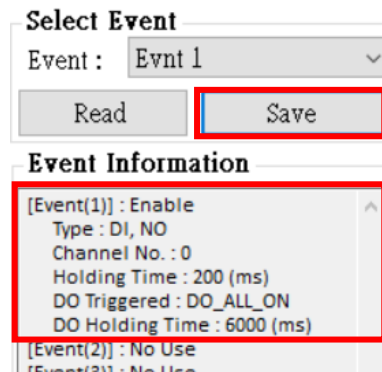

Figure 6.10.12
J. After setting, select "SAVE" to save as shown in Figure 6.10.12. Complete the list below to display the settings just made.